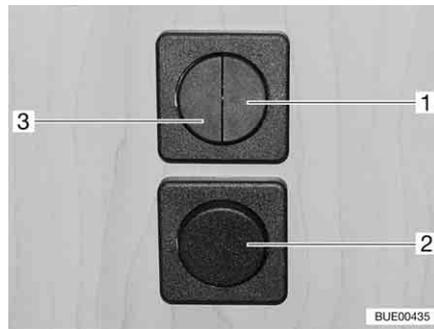
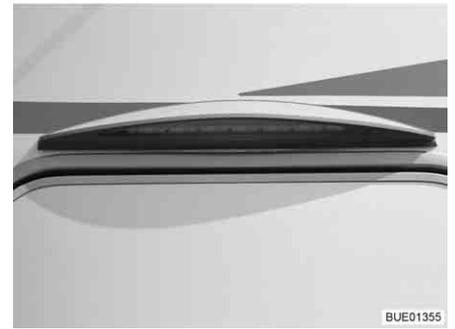

Fig. 40 Light switch
Fig. 41 Awning light
- Seating group lighting (Fig. 40,1)
- Awning light (Fig. 40,2 and Fig. 40,3)
- ▷ For models without the light switch (Fig. 40,2) the awning light (Fig. 41) is switched on or off using the rocker switch (Fig. 40,3).